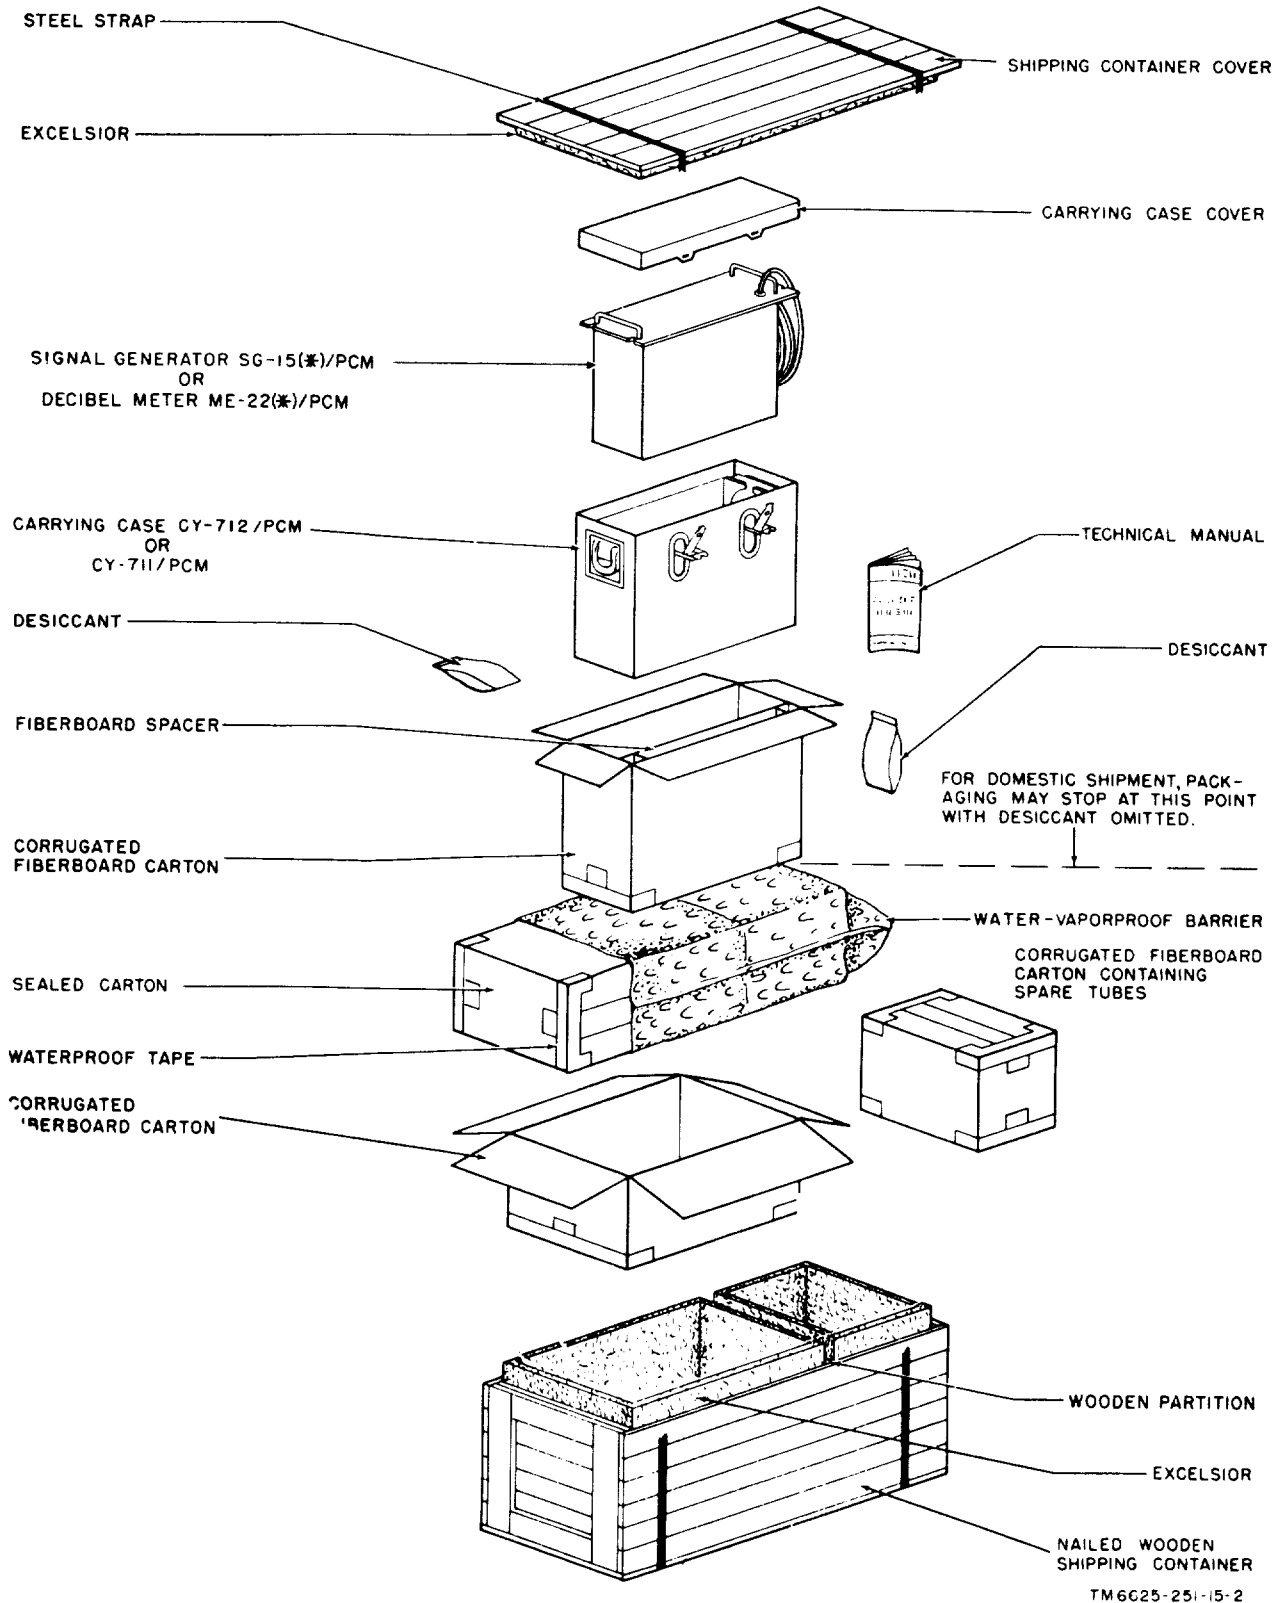

Figure 2-1. Signal generator SG-15(*)/PCM or decibel meter ME-22(*)PCM, packaging details for domestic and overseas shipment.
b. *Packaging Data.* Signal Generator SG-15(*)/PCM and Decibel Meter ME-22(*)/PCM may be shipped as single items or as Test Set TS-140/PCM. In addition, the equipment may be packaged for either domestic or oversea shipment. The package containing the decibel meter is designated CASE 1 OF 2 CASES and the package containing the signal generator is designated CASE 2 OF 2 CASES (fig. 2-1).